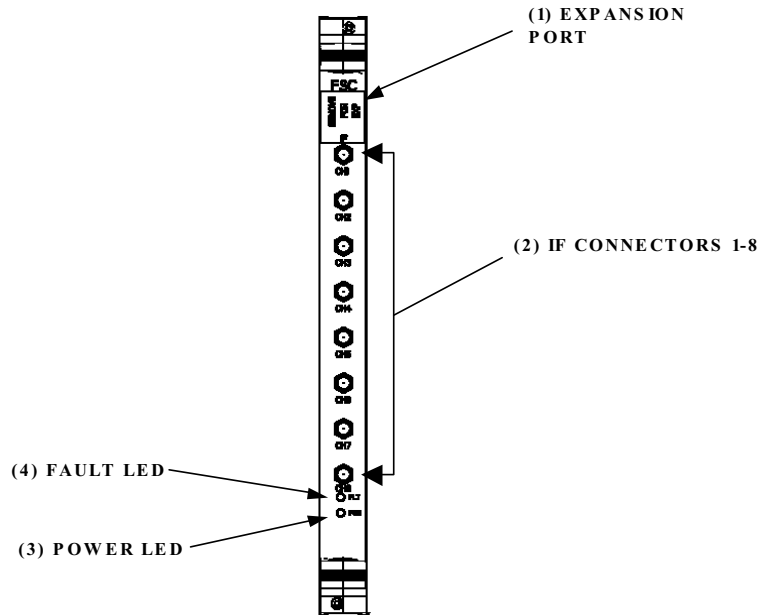

Figure 2-17. Forward Simulcast Card
- One (1) FSC is required per sector. One FSC can accept the output of two (2) FBHDCs per sector.
- One (1) cable is required per FBHDC to carry the test tone from the BIM FWD 1 or 2 ports to the Test input on the FBHDC.
The Forward Simulcast Card (FSC), shown in Figure 2-17, converts the IF signals from the FBHDC to Digitized IF (DIF) format. There are eight (8) separate analog-to-digital conversion circuits on one (1) FSC. This module is specified at one per sector per tenant per 8 RANs. The references for the FSC are shown in Table 2-11.